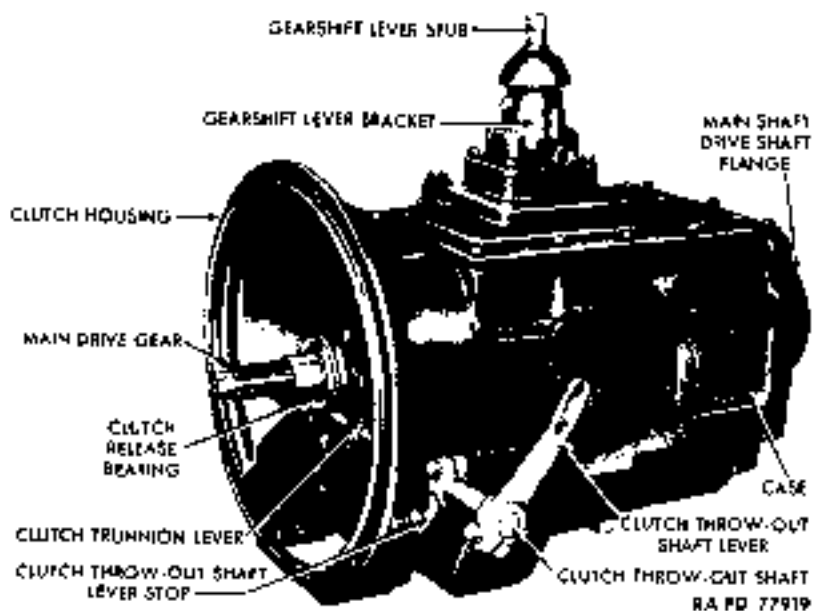

Figure 52 - Transmission
**f. Disconnect Transmission Gearshift Lever (fig. 20).** Loosen the nut and bolt which clamp lever to gearshift lever stub. Pry lever from stub (fig. 52), and remove Woodruff key from stub.
**g. Disconnect Clutch Control Rod From Clutch Throw-out Shaft (fig. 52) (par. 60).**